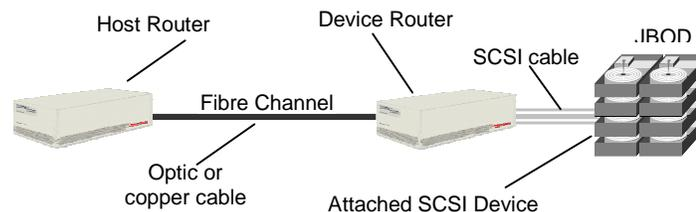

Figure 2-3. Example of Step Five Completed
4. At this point the host/server should not be attached as shown below in Figure 2-3.